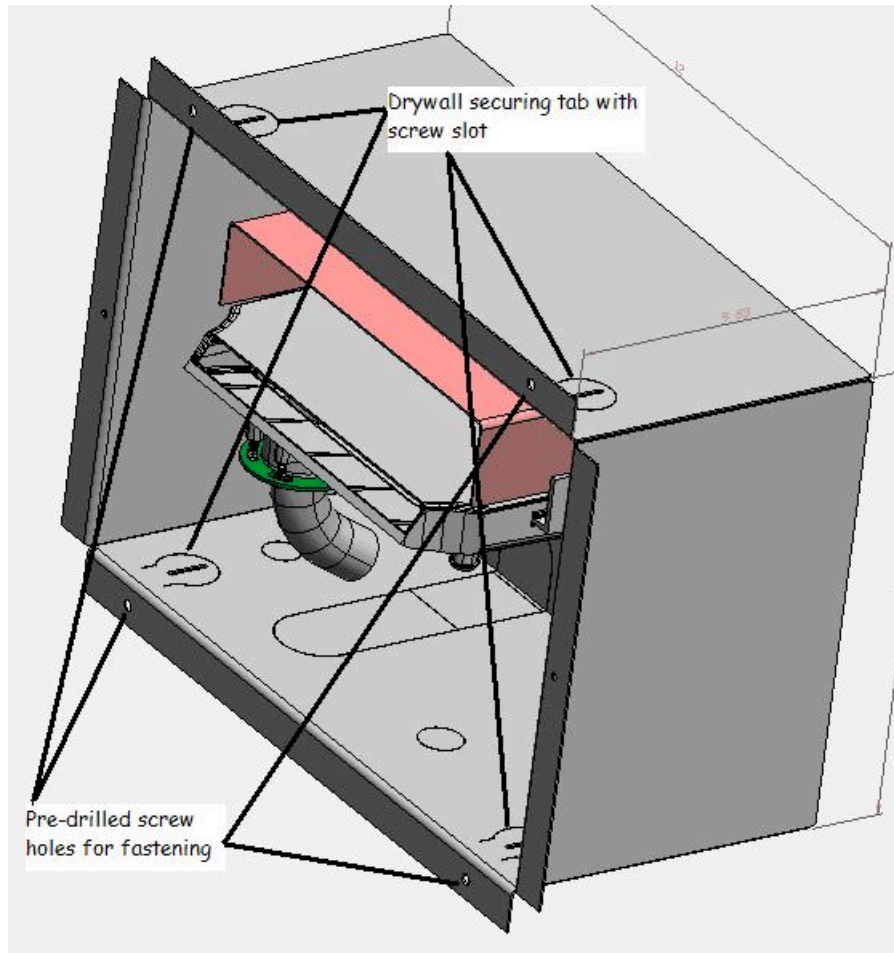

Fig 5.2.3
5.2.2 Insert RMB housing into the wall and bend the 4 fastening tabs (Fig. 5.2.3) around the back of the drywall.
5.2.3 Secure the housing to the wall using predrilled holes located in front of drywall tabs. The screw should penetrate the wall and pass through the slot in the securing tab behind the drywall (Fig. 5.2.3).